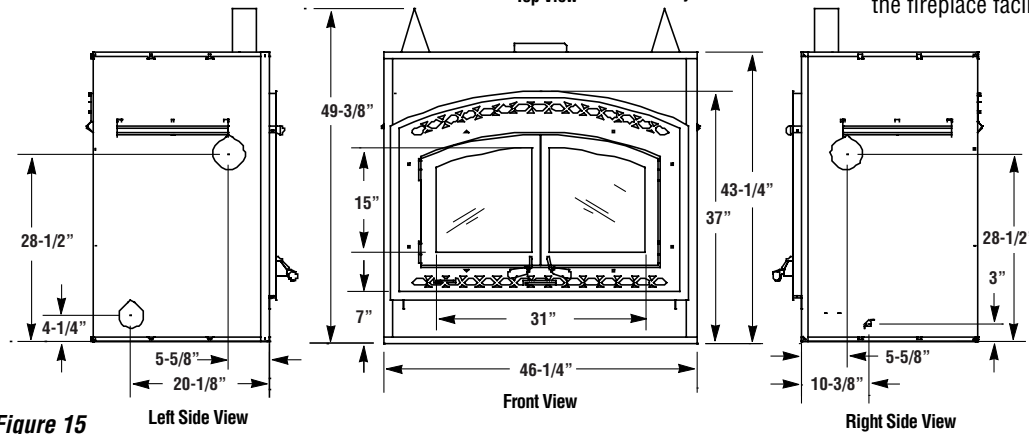

Figure 15
The construction of the framing, facing, and mantel must be in accordance with the standards and the following illustrations (**Figures 15 and 16**):
- C. Frame the fireplace with vertical studs at the sides of the fireplace running from floor to ceiling (see **Figure 15**). If combustible facing is to be used, position the studs back, from the front edge of the fireplace (a space that is the thickness of the facing material, so that the facing can be installed flush with the fireplace facing). Frame headers between the vertical studs only as follows: